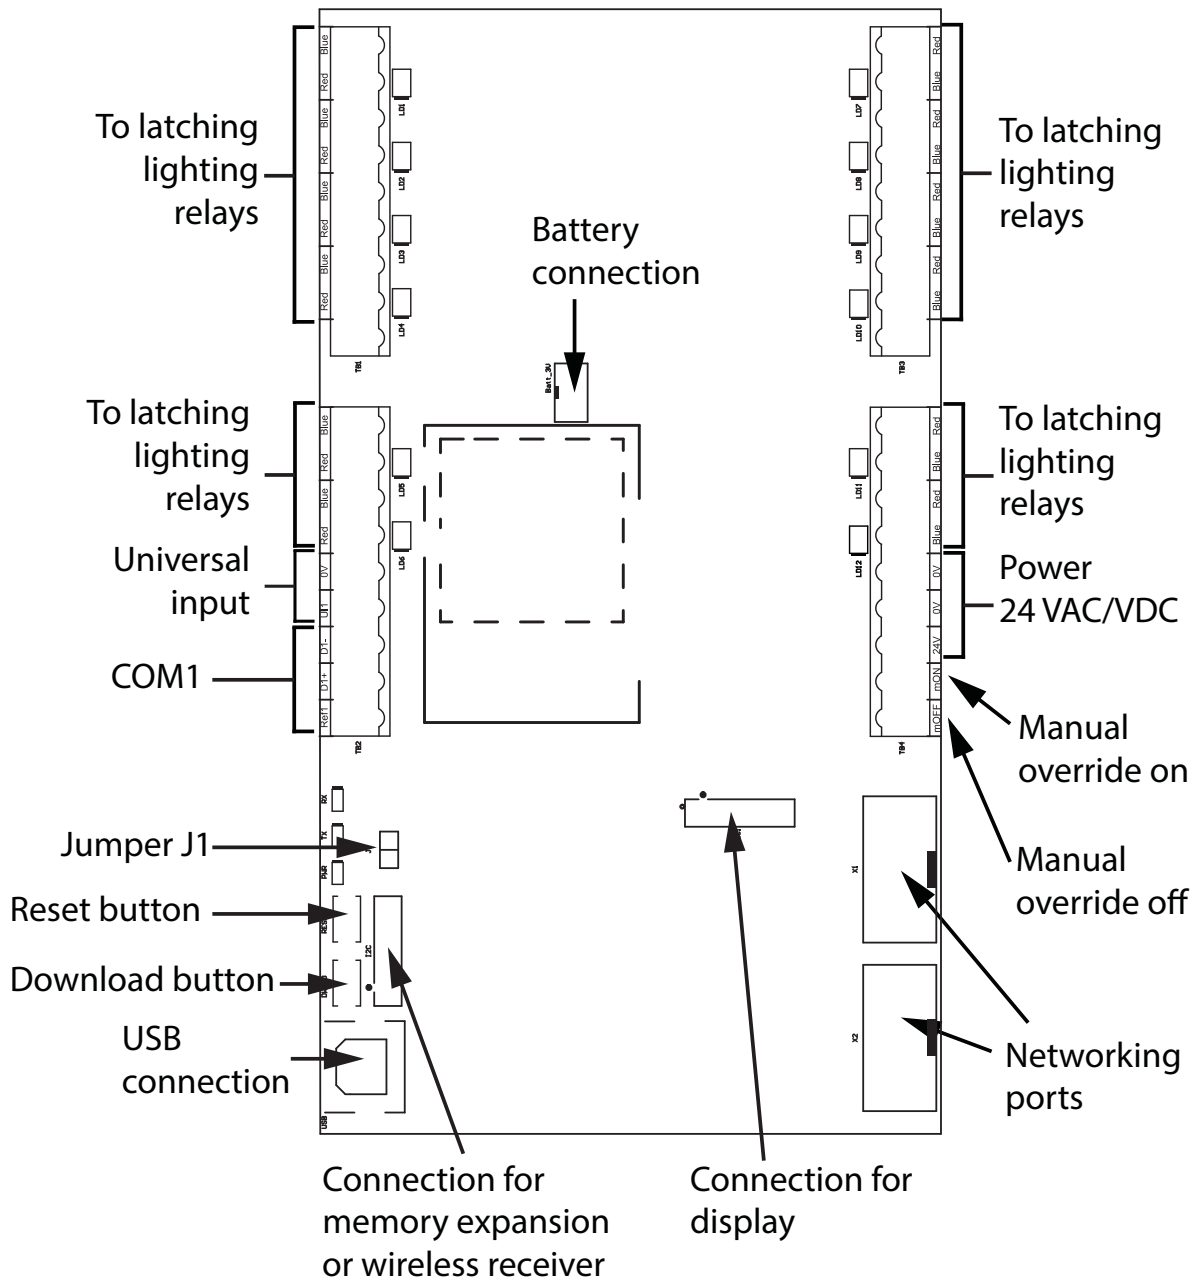

Figure 4 Controller board connections
The USB 2.0 connection is shown in Figure 4. Connect a computer to this port in order to configure the controller.
6. Connect the new battery to the connector shown in Figure 4. The battery wire can be connected only one way.
Figure 4 on page 12 shows the location of the terminals. The terminals are depluggable for ease of wiring.